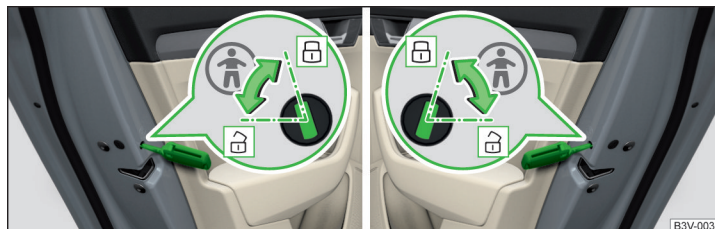

Fig. 35 Switching on/off the parental control: rear door left/right
- To **switch on**, turn the parental control with the vehicle key in position » Fig. 35.